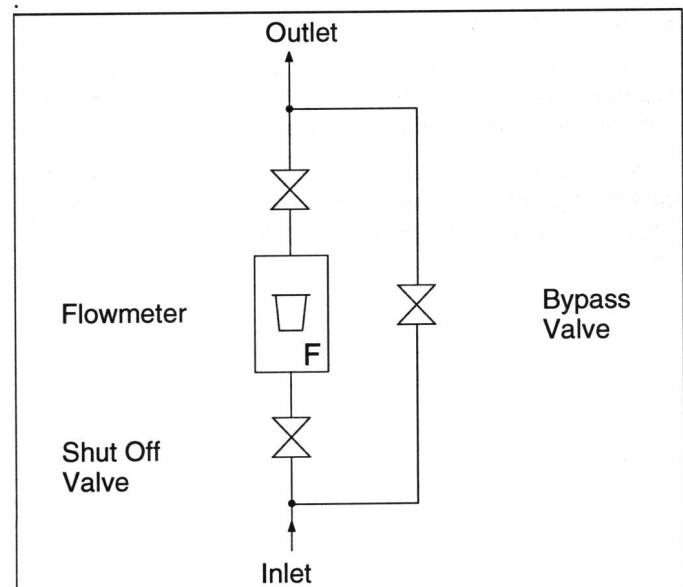

Fig. 4 Installation Example
- When the flowmeter is to be installed in a pipeline in which interruption of service is undesirable or impossible, a bypass line should be installed as shown in Fig. 4.
In such applications we recommend the use of a magnetic separator. During installation of the flowmeter it is positioned between the flanges of the pipeline and the meter (see Fig. 4).